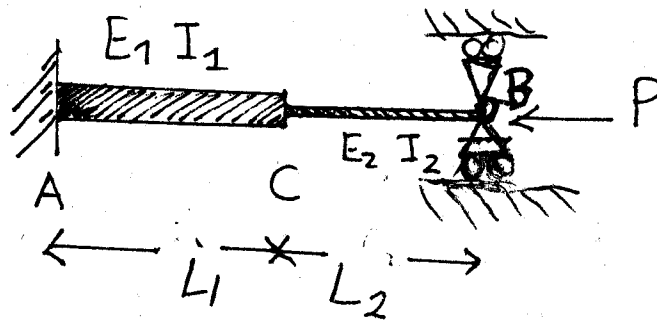

Figure 3
3. (25 pts) You are given the beam-column AB in Figure 3 which is subject to a horizontal compressive force P at point B. The beam is made up of two beams AC and CB of bending rigidity $E_1 I_1$ and $E_2 I_2$, and length L_1 and L_2 respectively which are welded at point C. The beam AC is fixed (clamped to a vertical wall) at point A and the beam CB is simply supported at point B at a frictionless pin so that the vertical displacement of point B is zero. Determine an (approximate) analytical expression for the critical buckling load P_{cr} . You may use an energy method or the differential equation method (whichever you like).